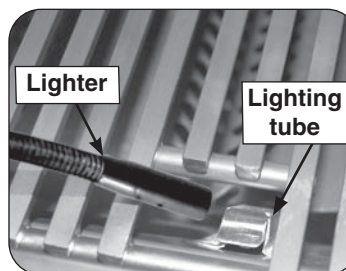
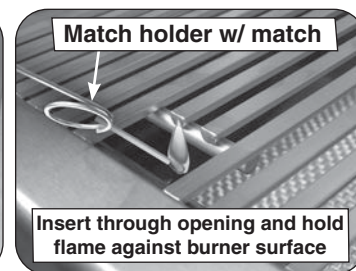

Fig. 29-2 Manual lighting via lighting tube
Fig. 29-3 Manual lighting via match holder
**CAUTION:** Always wait five (5) minutes for gas to clear after any unsuccessful lighting attempt.
2. Insert either a burning long-barrel butane lighter or a burning long-stem match through the cooking grid opening to the top of the lighting tube (see Fig. 29-2). For backburners or infrared burners, hold the flame against the surface of the backburner/infrared burner. Grills equipped with an infrared burner include a wire extension match holder (attached to drip tray) to assist with manual lighting (see Fig. 29-3).
4. If the burner does not light within five (5) seconds of turning the control knob, **immediately depress the knob and turn the valve to OFF**. **WAIT FIVE (5) MINUTES** before repeating steps 2 through 4 of the **MANUAL LIGHTING** instructions.